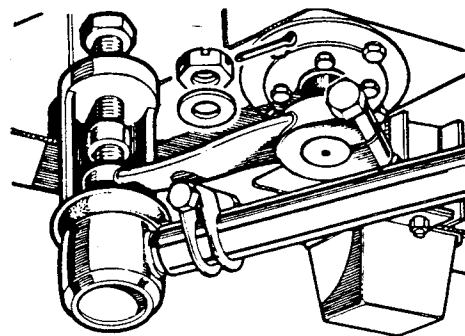

Fig J1.25
(5) Refer to Fig J1.25. Refit the steering drag link to the lower relay lever. Torque the ball joint fixings to 40 N.m.